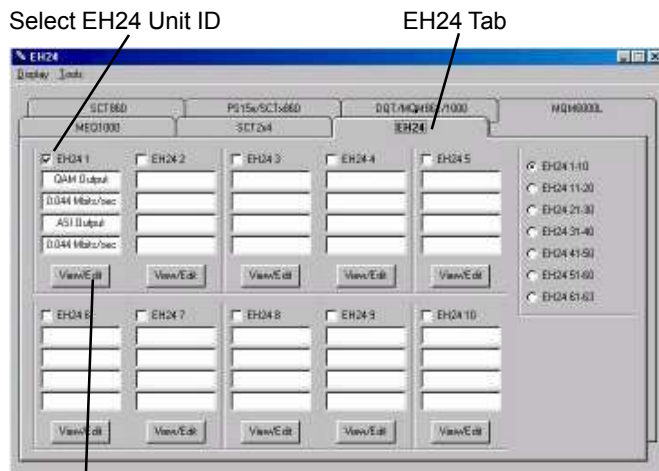

FIGURE 3
4) You will be presented with a screen similar to the one shown on **FIGURE 3**. Click on the EH24 tab, and click on the box representing the EH24 unit ID of the unit you are programming. In this example we selected Unit ID #1. Then click on the 'View Edit' button.